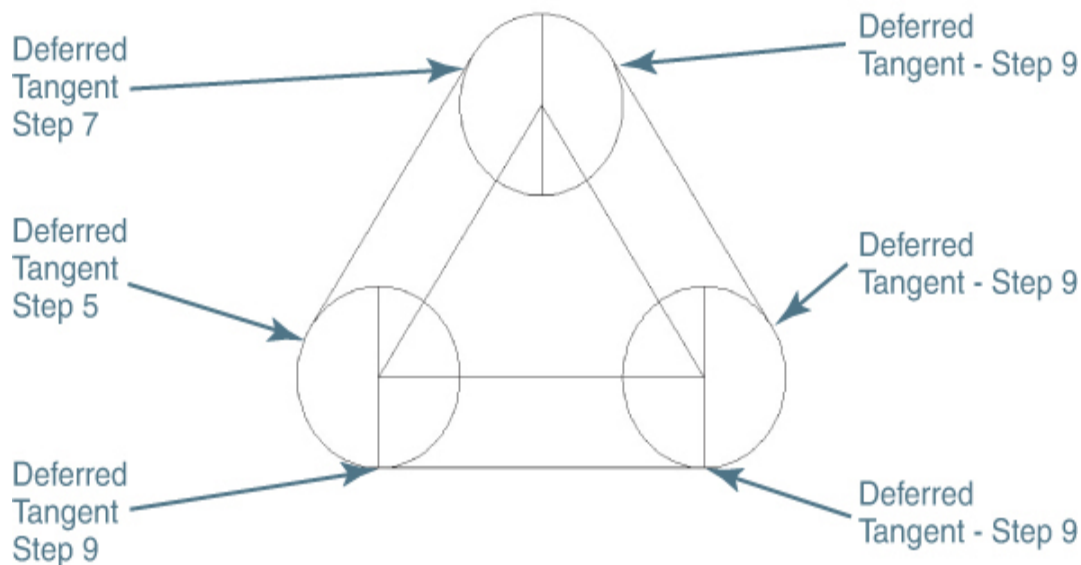

Figure 5-32
- 5 Place your cursor over the left side of the circle on the bottom left of the drawing, and wait until the **Deferred Tangent** AutoSnap marker and tooltip are displayed. Pick a point while the AutoSnap marker is displayed (see Figure 5-32).
- 7** Place your cursor over the left side of the circle on the top middle of the drawing, and wait until the **Deferred Tangent** AutoSnap marker and tooltip are displayed. Pick a point while the AutoSnap marker is displayed (see Figure 5-32).
- 9** Repeat steps 2 through 7 and create two more line segments tangent to the other two circles (see Figure 5-32).
- 10** Save your drawing. Your drawing should look like Figure 5-32.